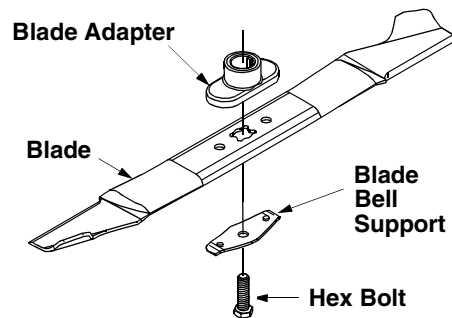

Figure 18
- Remove the bolt and blade support or bell washer which hold the blade and adapter to the engine crankshaft. See Figure 18. Remove the blade and adapter from the crankshaft.
- Install the blade adapter on the crankshaft with the “star” away from the engine. Refer to Figure 18. Place the blade with the side marked bottom (or with part number) facing away from the adapter.